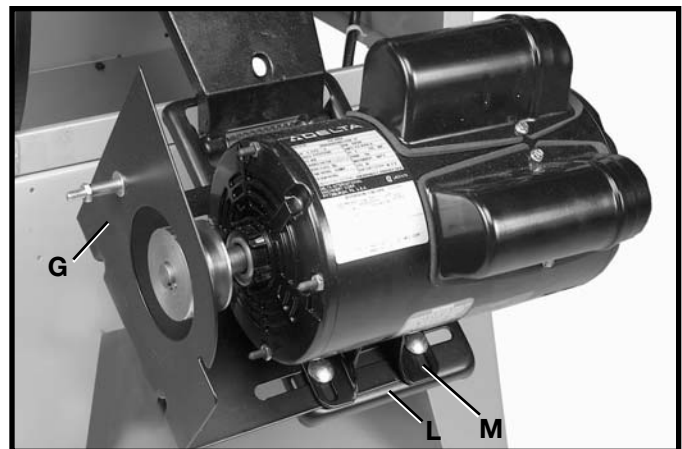

Fig. 21
4. Slide the belt and pulley guard bracket (G) Fig. 21 between the motor plate (M) and motor mounting plate (L), as shown.